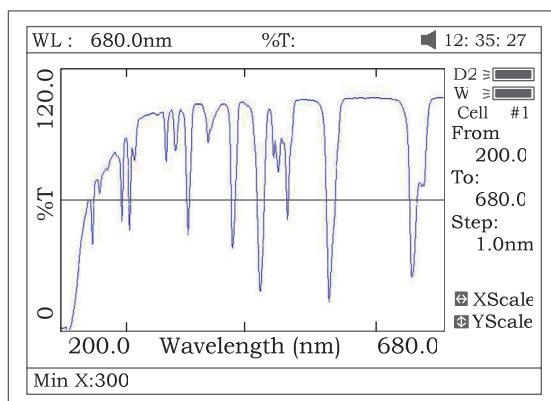
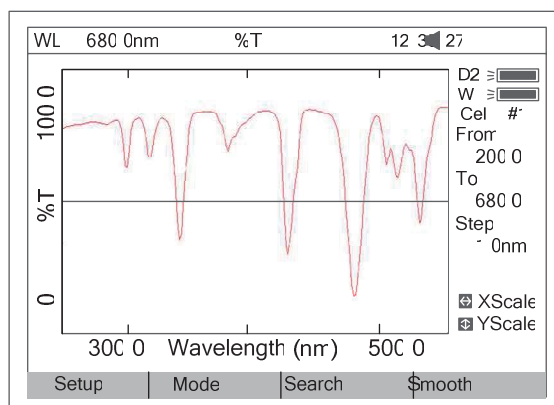

Fig46
Fig 47
- 5 If you want to change the scale, press **[<]** or **[>]** to change “x” scale (Fig 46), input upper limit and lower limit by pressing the numeric keypad. To change “y” scale press **[^]** or **[v]**. After these inputs the instrument will redraw the curve (Fig 47).
Press **[SAVE]** to save the curve. Note: Open/Save requires the first scan display page Fig. 47. Press **[ESC]** if in Search to return to the required page